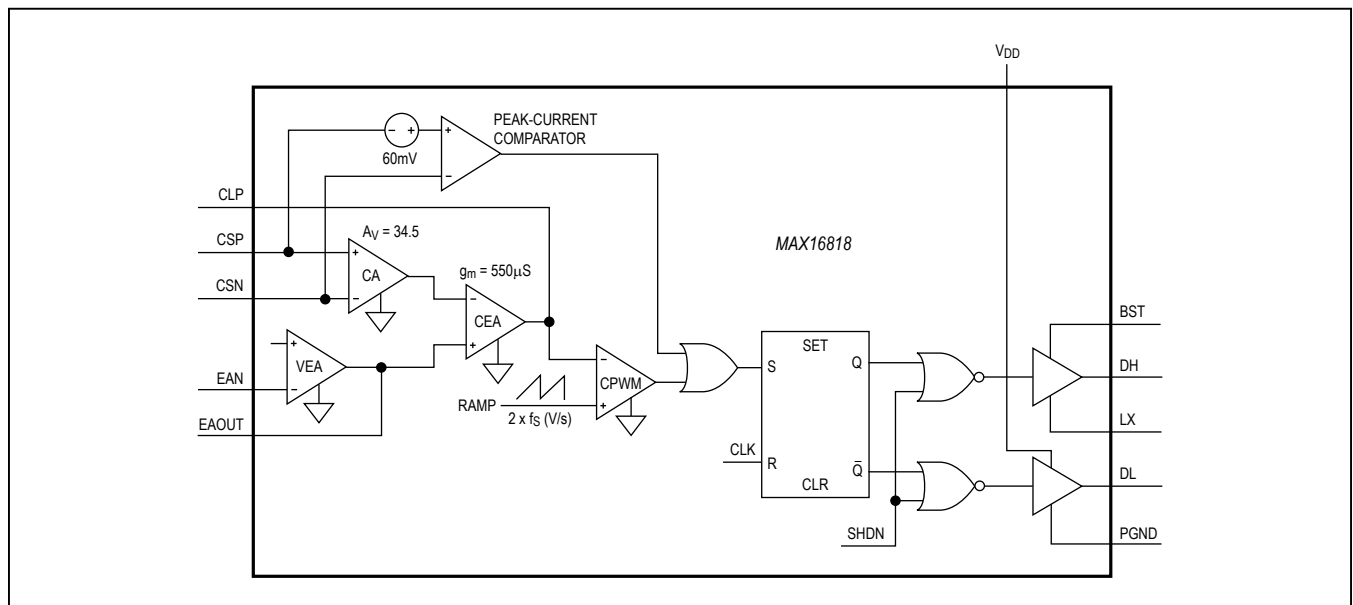

Figure 8. MAX16818 Phase Circuit
The peak-current comparator provides a path for fast cycle-by-cycle current limit during extreme fault conditions, such as an inductor malfunction (Figure 8). Note the average current-limit threshold of 26.9mV still limits the output current during short-circuit conditions. To prevent inductor saturation, select an inductor with a saturation current specification greater than the average current limit. Proper inductor selection ensures that only the extreme conditions trip the peak-current comparator, such as an inductor with a shorted turn. The 60mV threshold for triggering the peak-current limit is twice the full-scale average current-limit voltage threshold. The peak-current comparator has only a 260ns delay.
The PWM comparator (CPWM) sets the duty cycle for each cycle by comparing the output of the current-error amplifier to a 2VP-P ramp. At the start of each clock cycle, an R-S flip-flop resets and the high-side driver (DH) goes high. The comparator sets the flip-flop as soon as the ramp voltage exceeds the CLP voltage, thus terminating the on-cycle (Figure 8).